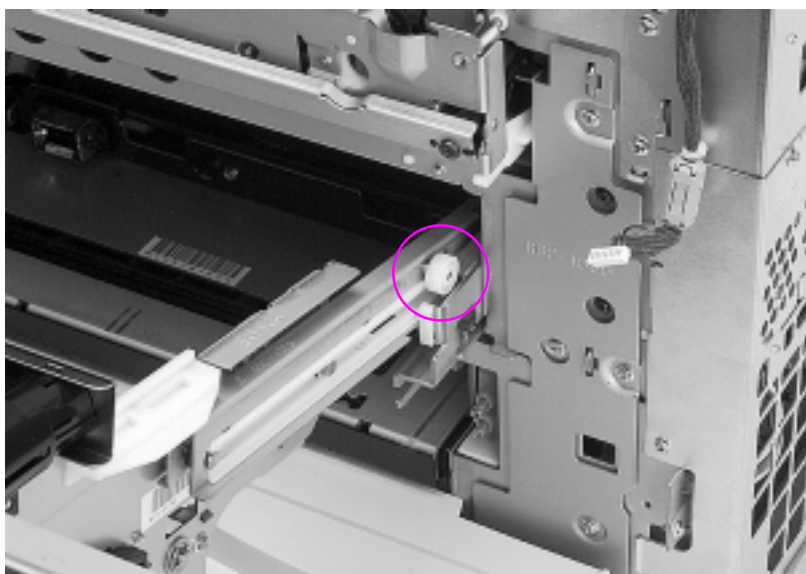

Figure 6-12 Middle front drawer removal and replacement
- 3 Lift up on the drawer, clearing the first set of guide wheels from the guide rail (Figure 6-12). Pull the guide rails until the next set of guide rail wheels stop, and then lift to clear the second set of guide wheels from the guide rails.